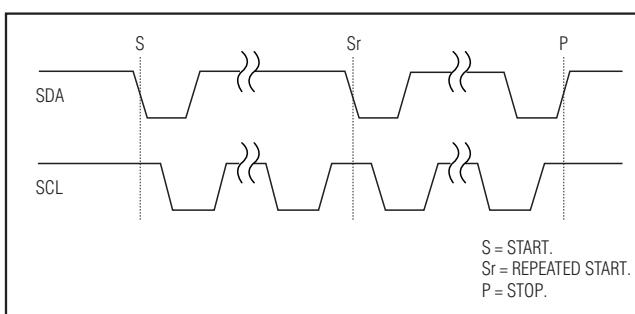

Figure 5. START and STOP Conditions
SCL is high. The master terminates a transmission with a STOP condition (P), which is a low-to-high transition on SDA while SCL is high (see Figure 5). A repeated START condition (Sr) can be used in place of a STOP condition to leave the bus active and the mode unchanged (see the *HS I2C Mode* section).
A write cycle begins with the bus master issuing a START condition followed by 7 address bits (see Figure 5 and Table 1) and a write bit ( $R/W = 0$ ). Once the slave address is recognized and the write bit is received, the MAX11008 ( $I^2C$  slave) issues an ACK by pulling SDA low for one clock cycle. The master then sends the register address byte (command byte) to the
A read cycle begins with the master issuing a START condition followed by a 7-bit address, (see Figure 5 and Table 1) and a write bit (R/W = 0) to instruct the MAX11008 interface that it is about to receive data. Once the slave address is recognized and the write bit is received, the MAX11008 (I2C slave) issues an ACK by pulling SDA low for one clock cycle. The master then sends the register address byte (command byte) to the slave. The MSB of the register address byte is the read/write bit for the destination register address of the slave and must be set to 1 for a read cycle (see the *Register Address Map* section). After this byte is received, another acknowledge bit is sent to the master from the slave. The master then issues a repeated START (Sr) condition. Following a repeated START (Sr), the master writes the slave address byte again with a read bit (R/W = 1). After a third acknowledge signal from the slave, the data direction on the SDA bus reverses and the slave writes the 2 data bytes (the